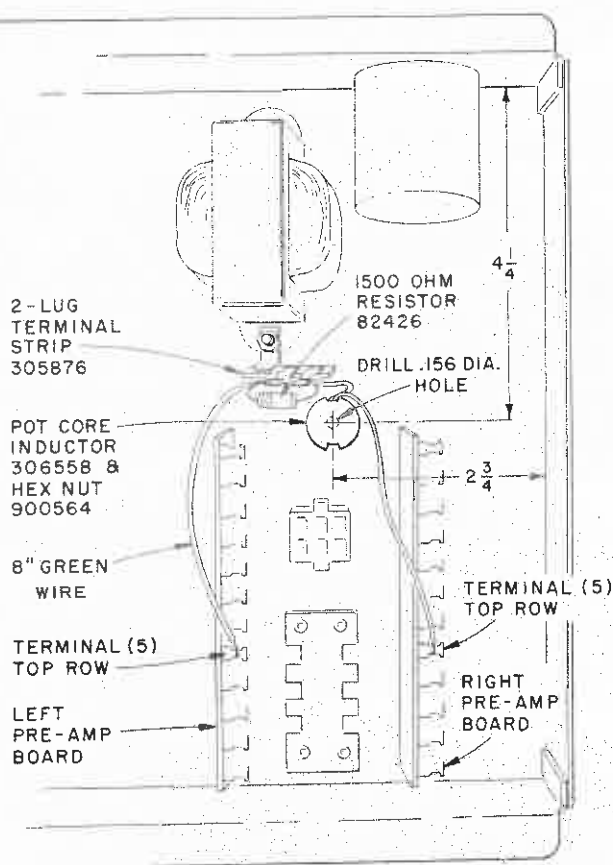

Figure 5. Amplifier Wiring Diagram.
C. AMPLIFIER (See Figure 5)
2. Locate hole for Pot Core Inductor per Figure 5.